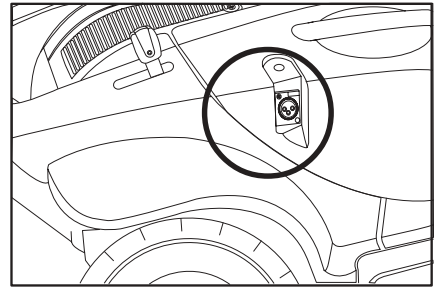

Figure 8. Charger Power Lead Receptacle
4. Remove the charger power lead receptacle cover from the charger power lead receptacle and plug the 3-pin charger power lead into the receptacle. See figure 8.